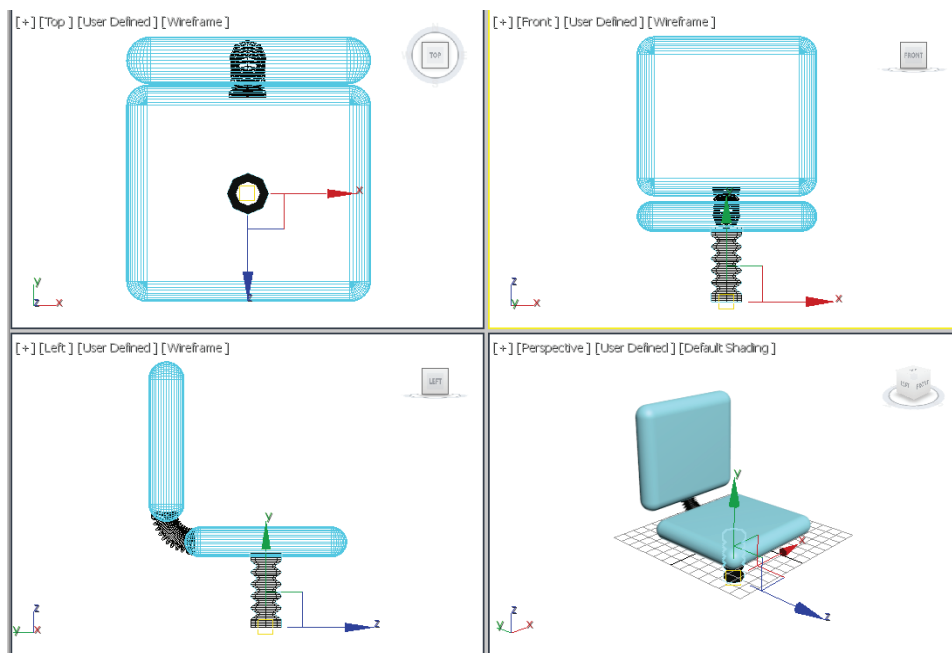

Figure 3-39 Alignment of leg support in the viewports
- Choose the **Select and Move** tool and align *leg support* in the viewports, as shown in Figure 3-39.